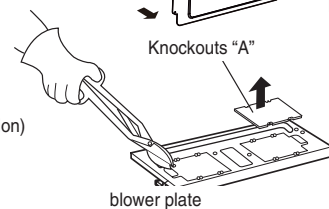

Figure 20 (Optional)
2. Use side cutter or thin snips to cut and remove knockouts "A" from Blower plate. Discard knockouts. Be careful not to distort the plate. See Figure 20.